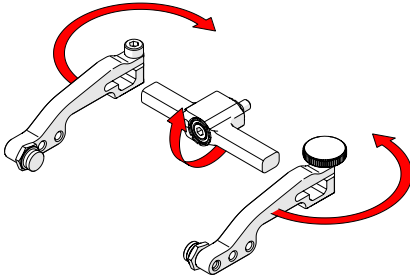

Fig. 61 - Flip yoke and reverse arms
3. Flip the yoke 180° and reverse the probe holder arms (Fig. 61).